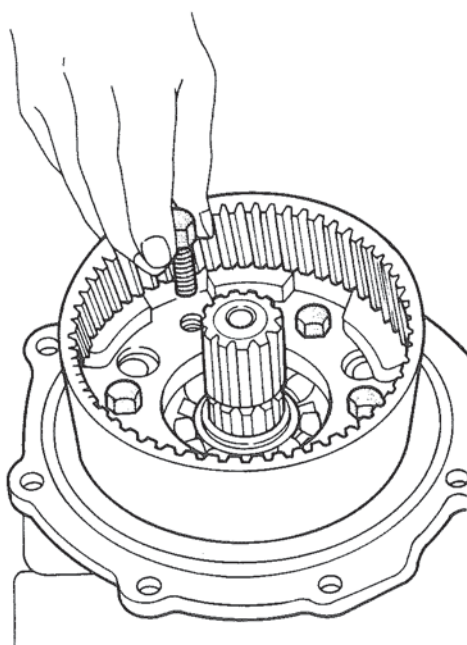

Figure 19. Installing Nylock Bolts.
5. Install the six (6) new 7/16 - 14 x 1-1/4 nylock bolts and 7/16 lockwashers. Figure 19.